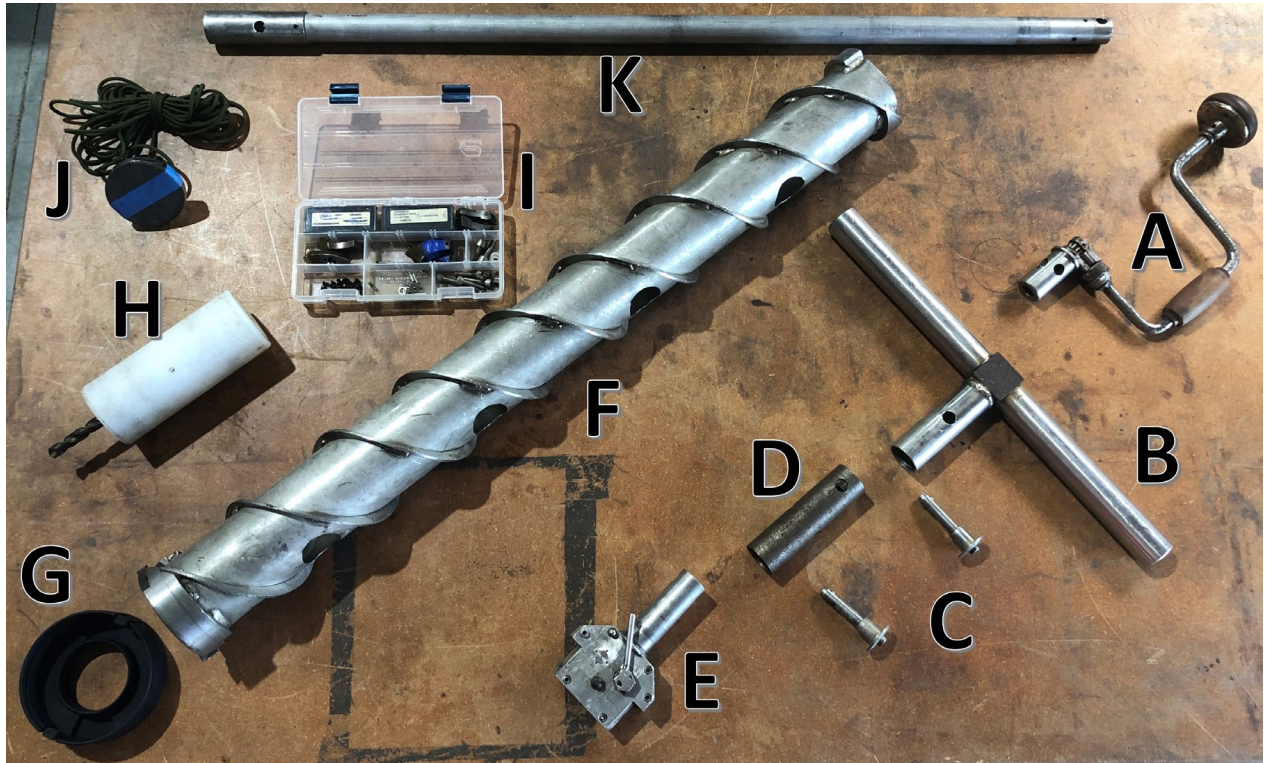

Figure 1: SIPRE Kit Parts
- The core barrel and core head (Item F, Figure 1)
- The drive adapter (Item E, Figure 1).
- The adapter tube (Item D, Figure 1).
- The brace handle (Item A, Figure 1).
Item Callout Letter Figure 1	Description